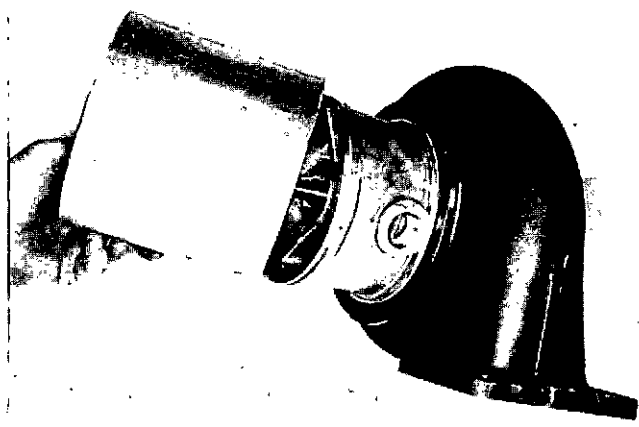

Fig. 3-6, (VTST31). Installing the turbocharger sleeve
9. Position a turbocharger sleeve over the bearing housing and against the turbine housing, Fig. 3-6.